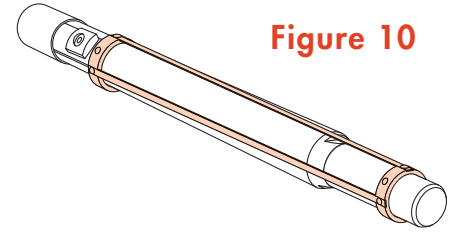

Figure 10
**NOTE:** Ensure that the **Centralizer** is mounted above the **Side View Camera** as shown in **Figure 10**.